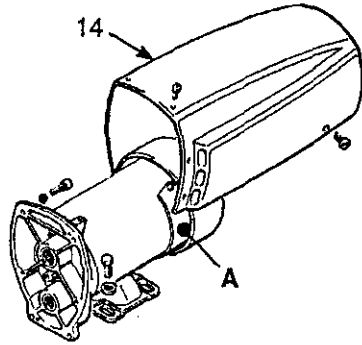

Fig 13-1
1. Remove the motor cover (14) and both inspection covers (A). See Fig 13-1.